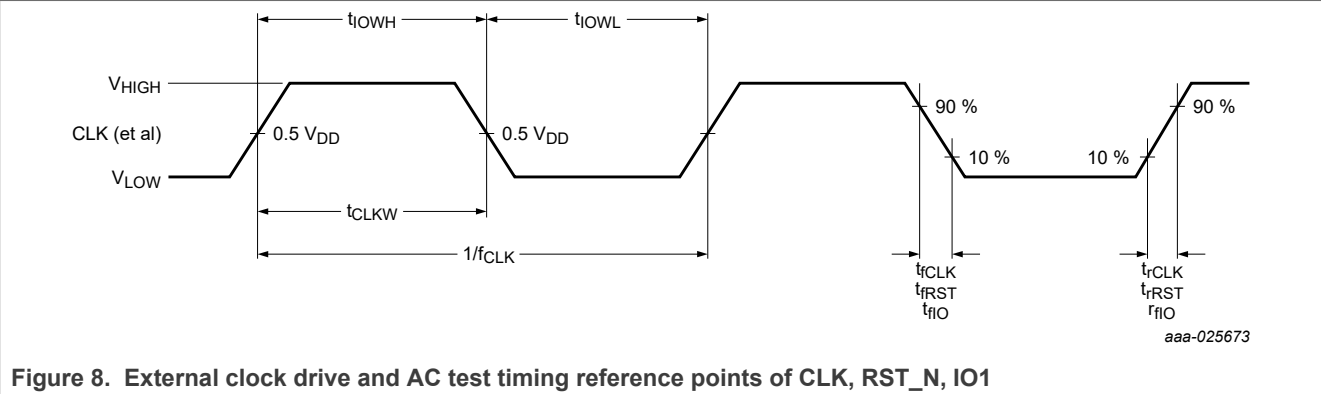

Figure 8. External clock drive and AC test timing reference points of CLK, RST_N, IO1
- [5] During AC testing the inputs CLK, RST_N, and IO1 are driven at 0 V to 0.3 V for a LOW input level and at $V_{DD} - 0.3\text{ V}$ to V_{DD} for a HIGH input level. Clock period and signal pulse (duty cycle) timing is measured at 50 % of V_{DD} (see Figure 8).